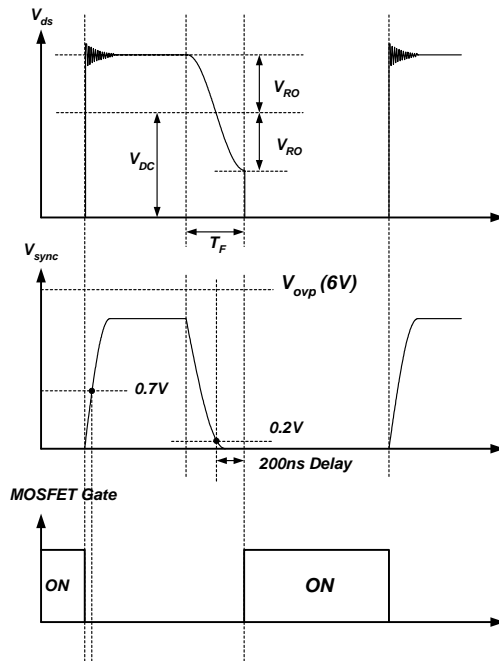

Figure 6. Quasi-resonant switching waveforms
3. Synchronization: The FSQ-Series employs a quasi-resonant switching technique to minimize the switching noise and loss. The basic waveforms of the quasi-resonant converter are shown in Figure 6. In order to minimize the MOSFET's switching loss, the MOSFET should be turned on when the drain voltage reaches its minimum value as shown in Figure 6. The minimum drain voltage is indirectly detected by monitoring the V_{CC} winding voltage as shown in Figure 6.